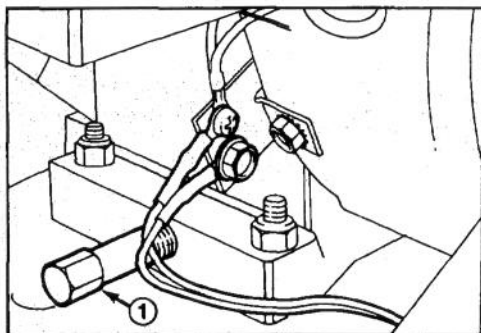

Figure 17
3. Clean area around oil drain cap. Next, slide oil drain pan below drain extension; then remove oil drain cap (Fig. 17).